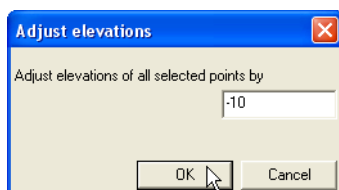

Figure 3-17. Enter Elevation Adjustment Number
2. On the *Adjust elevations* dialog box, type the number to add to or subtract from the current elevation and click **OK** (Figure 3-17). Use a minus sign to subtract an elevation value.